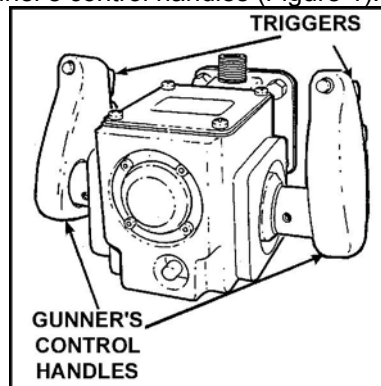

Figure 1. Gunner's control handles.
5. Squeeze the trigger on the gunner's control handles (Figure 1).